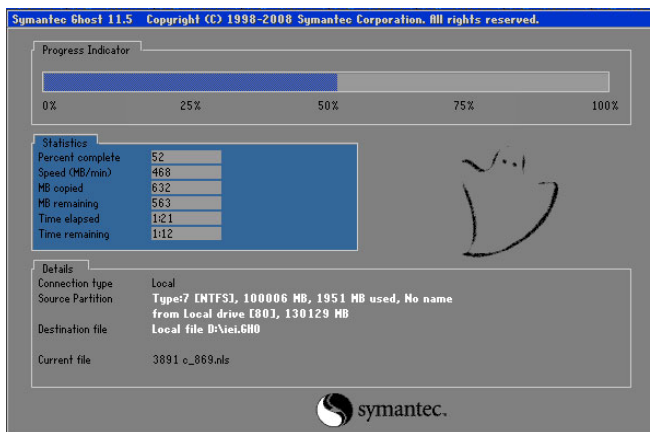

Figure C-16: Image Creation Complete
Step 10: The Symantec Ghost starts to create the factory default image (**Figure C-16**).